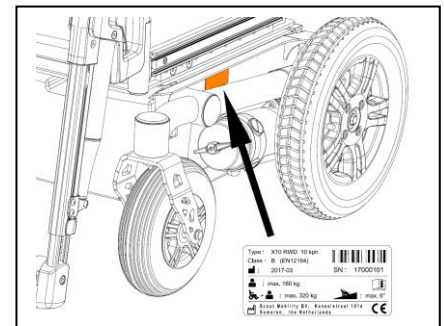

Figure 2.2
7. Identification plate (see also fig. 2.2)